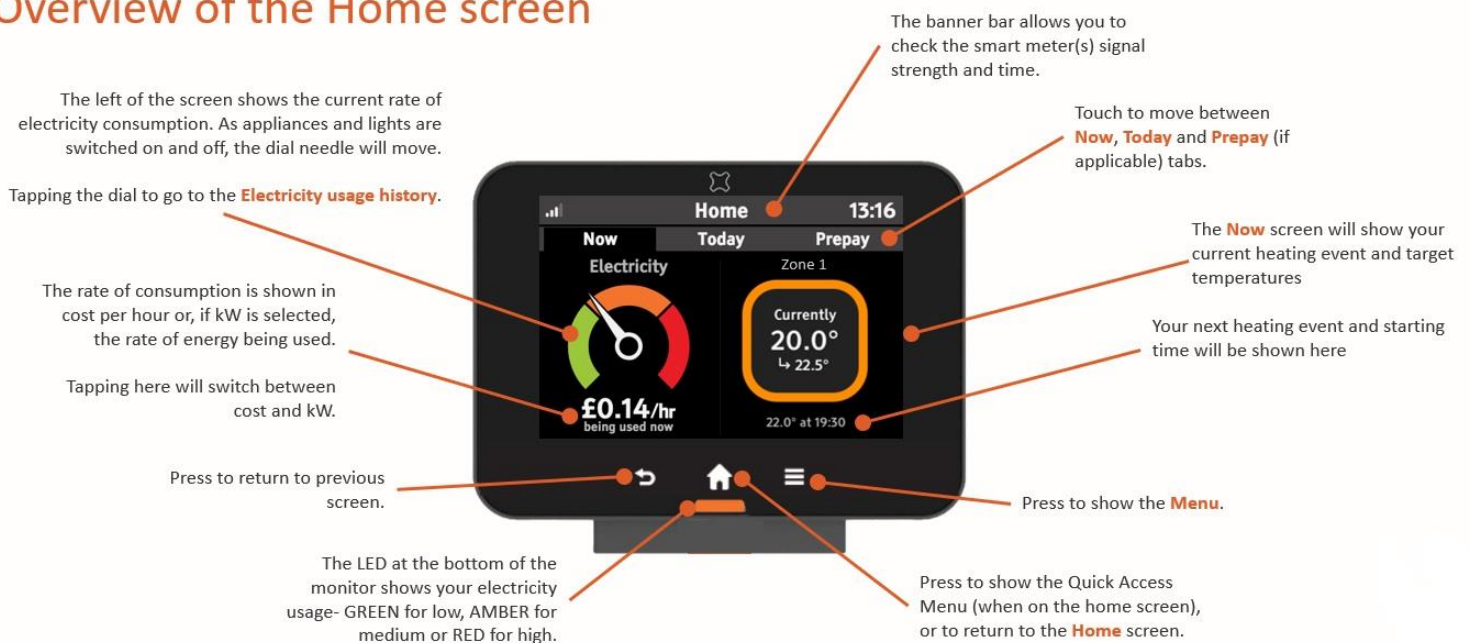

Fig 2.1 - IHD Home Screen
- Once the connection to HAN is established, the Home screen will be shown on the display (see Figure 2.1). It may take a few minutes for data to be shown on the screen (gas can take over 30 minutes).
- To access this screen, when on the Home screen press the Home button and then the Status icon (see Fig 2.1).
- The Trio home screen shown in Fig 2.1 will be displayed.
- Press the menu button (see Fig 2.1)